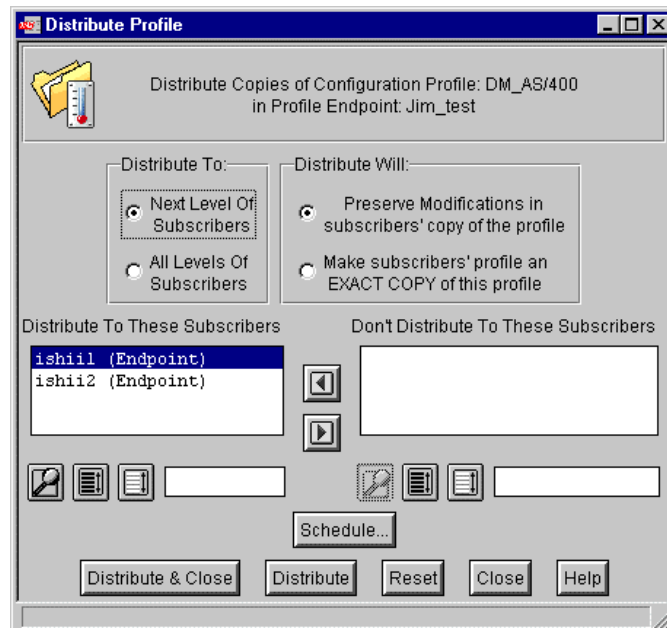

Figure 305. Distributing the AS/400 Disk Monitor
7. Save the new monitor using the **Save** option in the Profile menu. Now, select **Distribute** from the Profile menu and select the AS/400 to distribute to as shown in Figure 305.